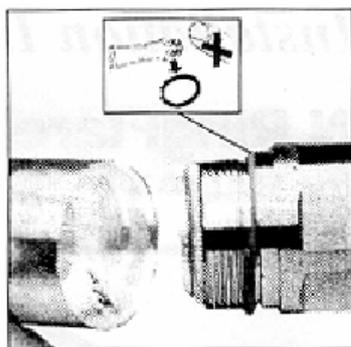

Figure C-17 Mounting connector body
- 11) Add O-ring and apply grease to it. Mount the connector body, as shown in Figure C-17.